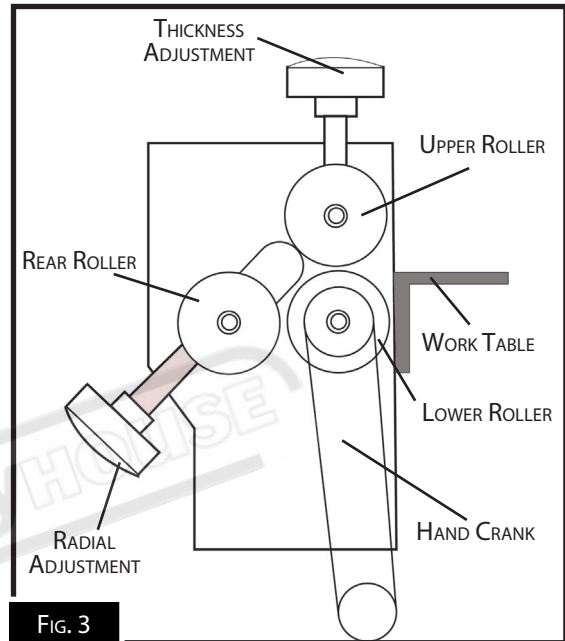

FIG. 3
**Thickness Adjustment Knob.** Raises and lowers the upper roller to adjust for the thickness of different workpieces. (Fig. 3)
**Radius Adjustment Knob.** Raises and lowers the rear roller to create smaller and larger radius bends. (Fig. 3)
**Hand Crank:** Rotates the rollers to feed the workpiece through the machine. (Fig. 3)